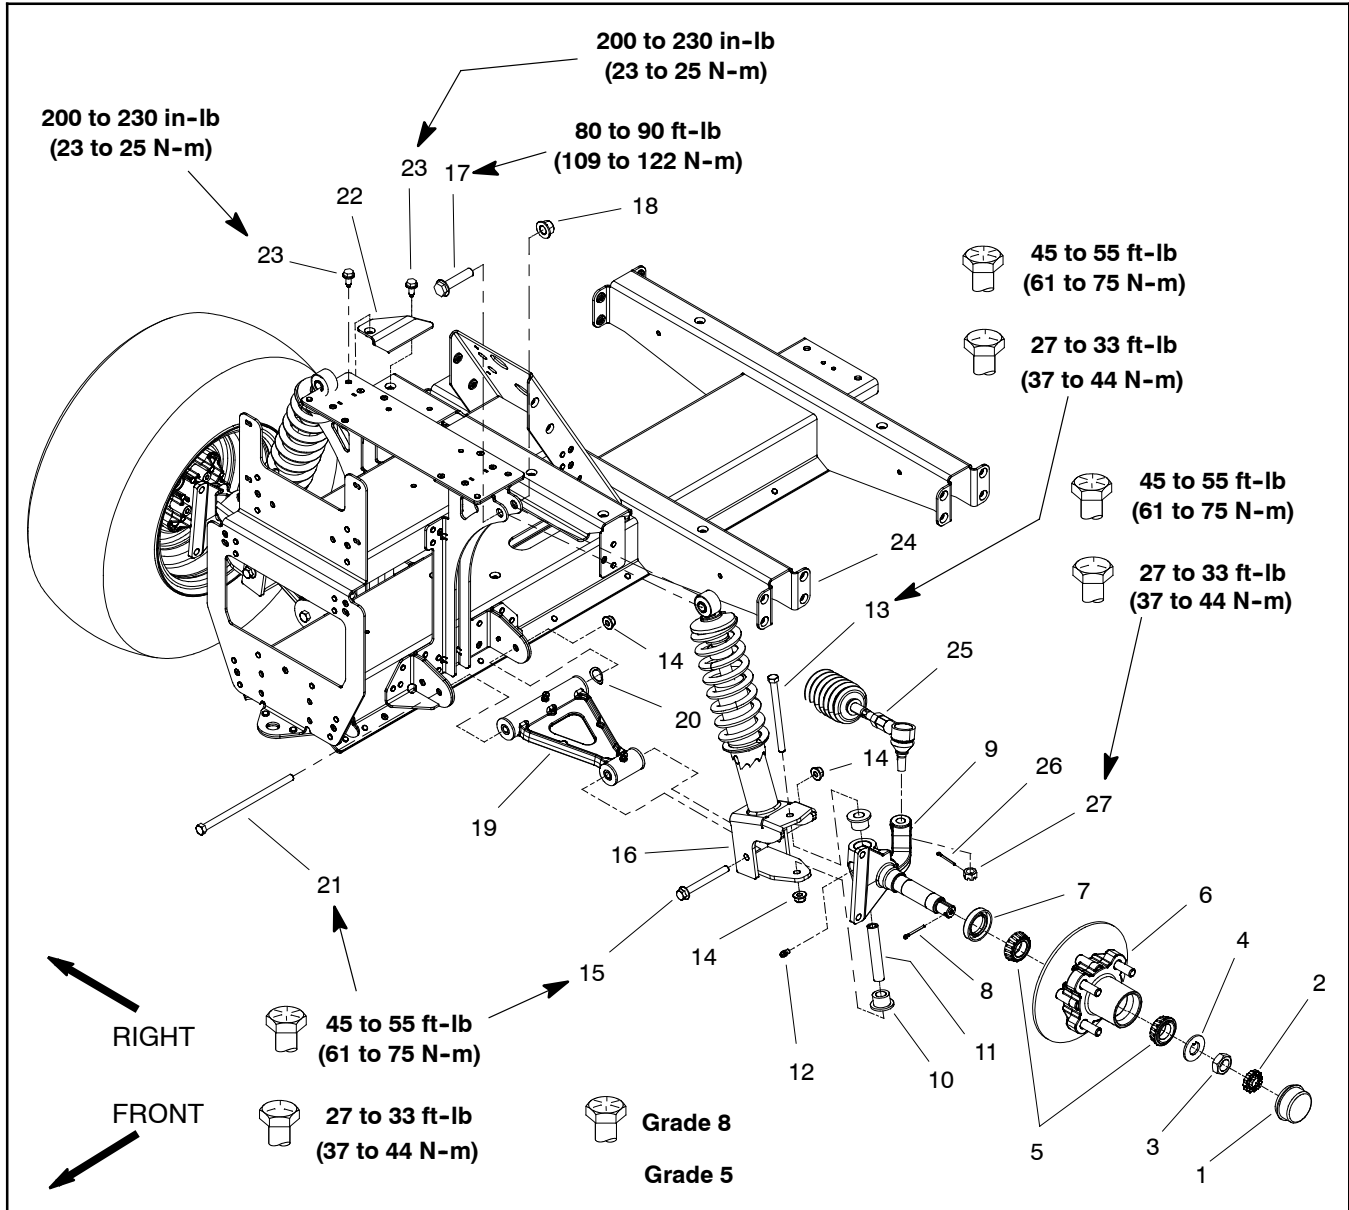
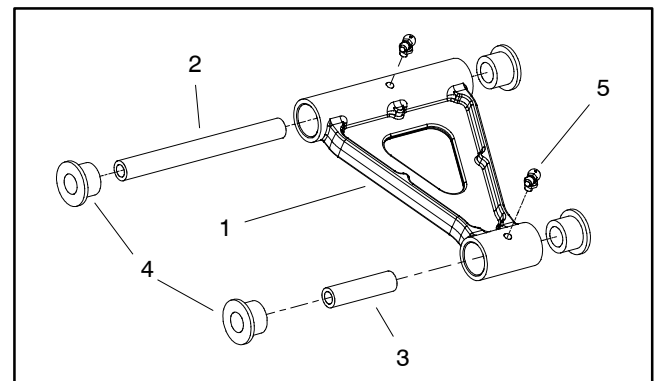

Figure 31
Figure 32
Disassembly (Fig. 31)
10. Inspect sleeves and bushings in spindle (Fig. 31) and A-arm (Fig. 32) for wear or damage. If necessary, replace sleeves and bushings from spindle or A-arm:
Assembly (Fig. 31)
5. Remove rear suspension components as needed using Figure 31 as a guide.
1. Install all removed rear suspension components using Figure 31 as a guide. After all parts have been installed fully tighten fasteners to secure suspension to vehicle. Torque fasteners to specifications listed in Figure 31.